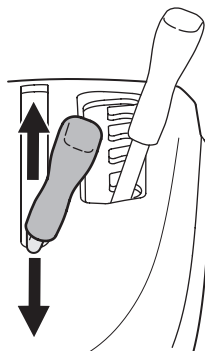

Figure 20
2. Push the PTO (Blade Engage) lever forward into the engaged (ON) position. See Figure 20.